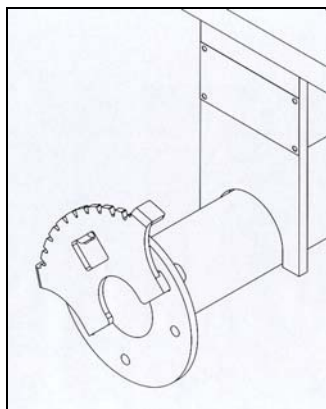

Figure 1.
3. The notch plate on the gate needs to be removed. (A cutoff wheel makes removing the old notch plate much easier than bending the tabs.) see fig 1.